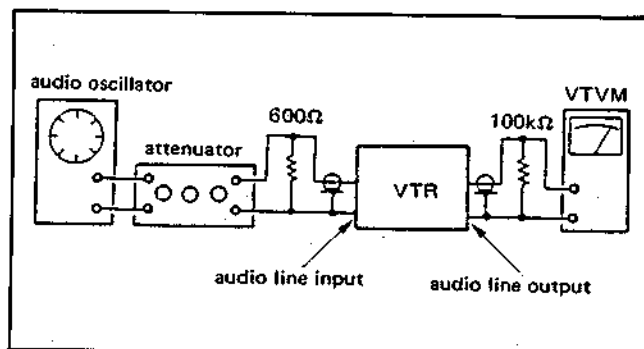

Fig. 4-25 Connections
The connections of the equipment to the input/output terminals are shown in Fig. 4-25.
- (1) Terminate the audio line output terminal with a 100kΩ resistor and connect a VTVM.
- (2) Play back the 5kHz signal segment of the alignment tape (KR5-2H).
- (3) Adjust the azimuth adjustment screw on the audio head for a maximum VTVM reading. (See Fig. 4-25).